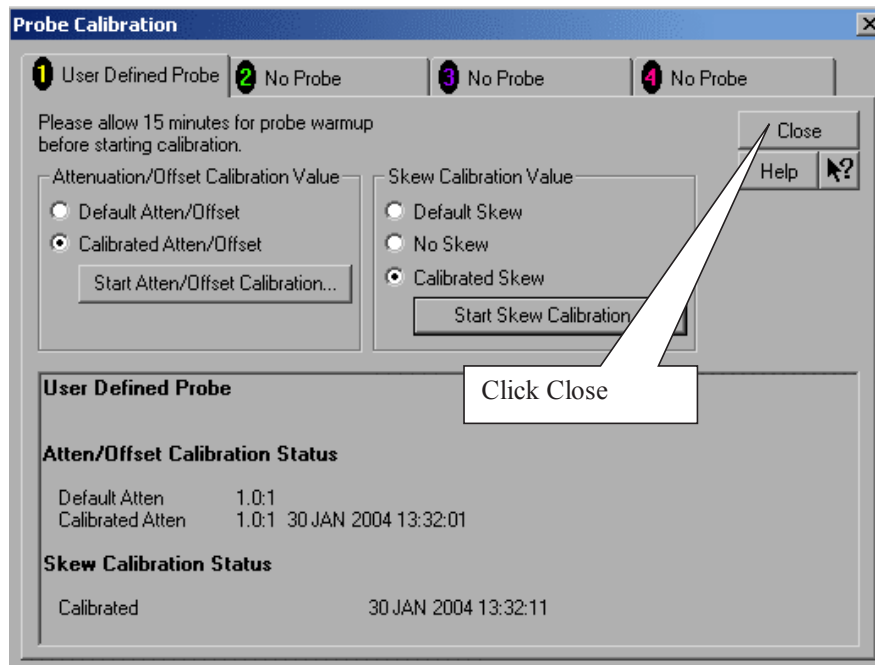

Figure 120 Calibration Window.
- 11 Referring to Figure 120 below, perform the following steps: